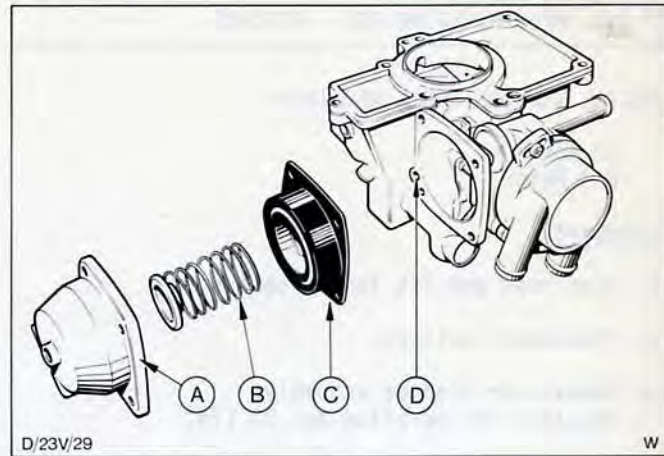

Fig.57. Control vacuum diaphragm assembly.
15. Connect control diaphragm to operating linkage, reconnect circlip and refit diaphragm housing and spring assembly, Fig.57. Secure with four cross head screws.
NOTE: Ensure that vacuum hole in diaphragm aligns with supply gallery in both carburettor body, 'D' in Fig.57, and housing. Also ensure diaphragm lies flat and is not kinked, by holding air valve open whilst locating and tightening diaphragm cover.